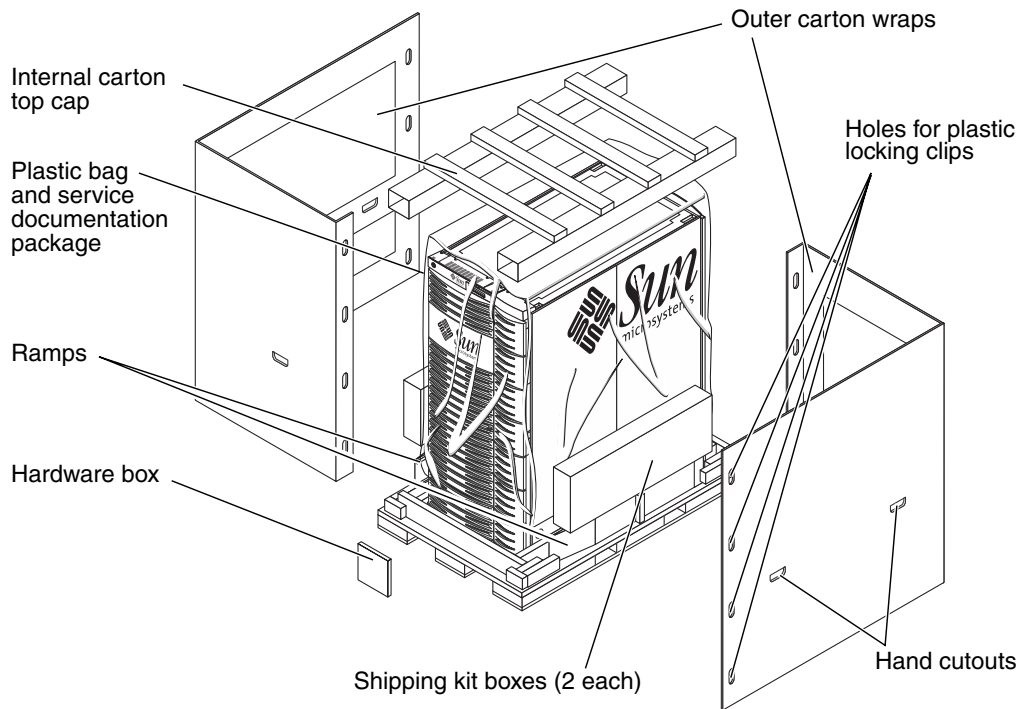

FIGURE 6-5 Final Packaging and Outside Carton Packaging Assemblies
4. Assembly outside carton (FIGURE 6-5).